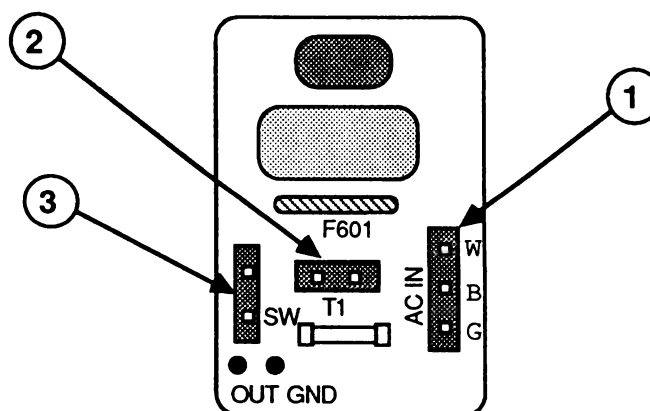

**FIGURE 4**
10. Disconnect the AC IN connector (Figure 4, #1) from the line filter board.
- a) If there are **three** AC IN connector pins at the markings **W** (white), **B** (black), and **G** (green) on the filter board, the power cord ground wire is connected to the line filter board circuitry, and the monitor is properly grounded. Reconnect the AC IN connector (Figure 4, #1) to the line filter board, and proceed to step 19.
- T1 (Figure 4, #2)
- SW (Figure 4, #3)